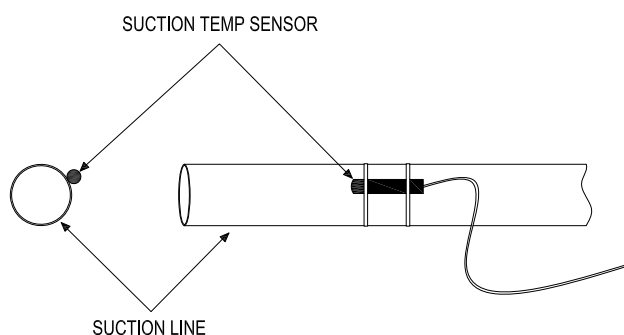

Figure 2-5
- b. Suction Temp Sensor (Figure 2-5) must be removed from the suction line prior to brazing. The sensor must be reinstalled on the suction line (10 or 2 o'clock position) after brazing is completed and the tubing has been allowed to cool down. After suction temp sensor is installed, suction line should be insulated and the sensor should be covered with the insulation.